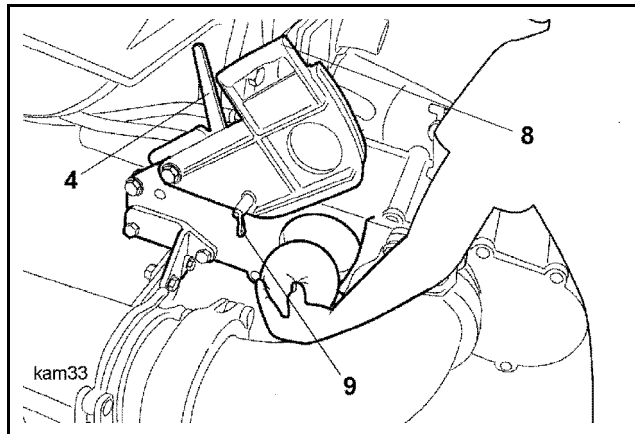

Fig. 509
- Push a damp, hard cleaning ball into the chamber (**Fig. 509**).
- Release the toggle (9) (**Fig. 509**) again so that the flap (8) can be closed.
- Close the flap (8).